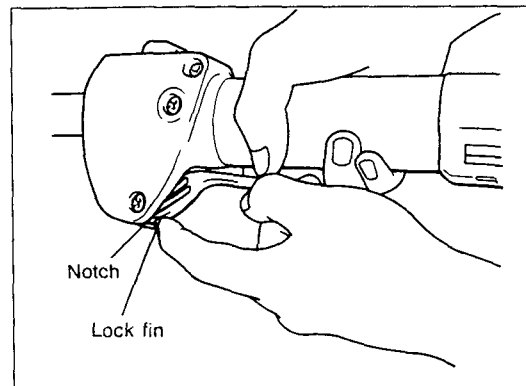

Fig. 7
- ii). Hook the lock fin to the notch in the throttle lever case while releasing the throttle lever (Fig. 7).